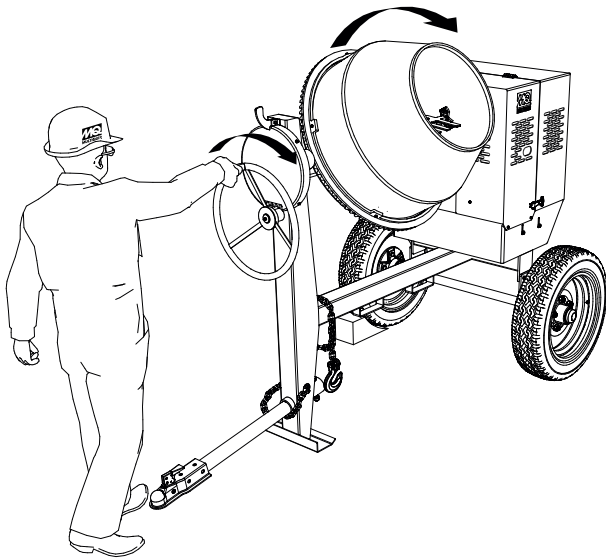

Figure 20. Mixing Drum Positioning
1. To position the tub, make sure the mixer is placed on firm level ground, then pull up on the dump latch (Figure 20) and turn the hand wheel until the tub is at the desired position. Once the tub is at the desired position, pull down on the dump latch to lock the tub in position.